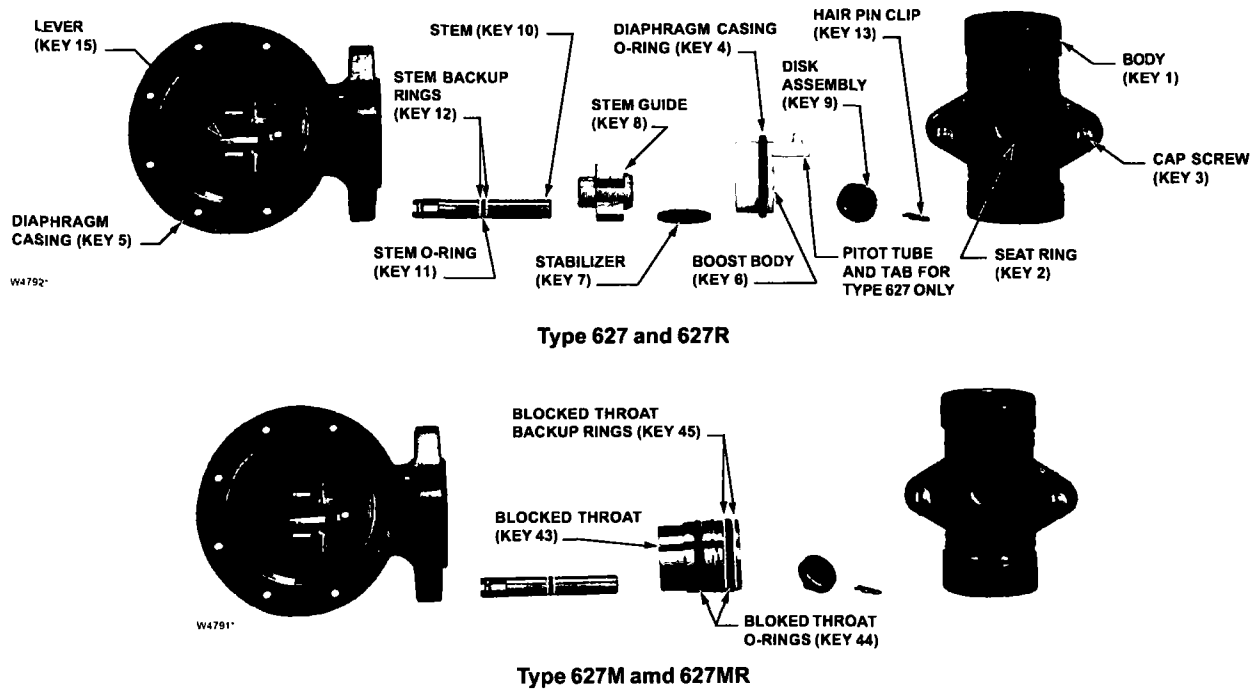

Figure 5. Stem Assemblies
1. To inspect and replace the disk assembly (key 9) or seat ring (key 2), remove the cap screws (key 3, figure 5), and separate the diaphragm casing (key 5) from the body (key 1).
2. Inspect and, if necessary, remove the seat ring (key 2). If removed, coat the threads of the replacement seat ring with lubricant (key 38) and torque to 25 foot-pounds (34 N•m).
3. Inspect the disk assembly and, if necessary, remove the hair pin clip (key 13) that holds the disk assembly (key 9) in place. If replacing the disk assembly is the only maintenance required, skip to step 16.
4. For Type 627, 627H, and 627R regulators (figure 5), use steps 5 through 8 to remove and replace the stem assembly.
5. Remove the boost body (key 6), stabilizer (key 7), and stem guide (key 8) from the diaphragm casing (key 5). Unhook and remove the stem (key 10) from the diaphragm casing (key 5).
9. For Type 627M, 627HM, and 627MR regulators (figure 5), use steps 10 through 14 to remove and replace the stem assembly.
10. To remove the blocked throat (key 43), insert a screw driver blade into the groove provided in the throat and pry it out of the diaphragm casing (key 5). Inspect and replace parts as necessary.
11. Inspect and, if necessary, replace the blocked throat O-rings (key 44, figure 5) and backup rings (key 45, figure 5).
12. Apply lubricant (key 42) to replacement blocked throat O-rings (key 44) and backup rings (key 45).
13. Apply lubricant (key 42) to the replacement stem O-ring (key 11) and stem backup rings (key 12) and install them on the stem (key 10).
14. For assembly, insert the stem (key 10) into the diaphragm casing (key 5) and hook it on the lever (key 15).
15. Insert parts into the diaphragm casing (key 5) that were removed in steps 5 and 6 or step 10 (see figure 5).
16. Install the the disk assembly (key 9), line up the hole in the disk assembly and stem (key 10) and insert the hair pin clip (key 13).
17. Position the diaphragm casing plus attached parts in relation to the body (key 1) so that they are correct for the application.
18. Secure the diaphragm casing to the body with the cap screws (key 3, figure 5). For an aluminum diaphragm casing (key 5), torque the cap screws (key 3) to 16 foot-pounds (22 N•m). For ductile iron or steel diaphragm casings, torque the cap screws (key 3) to 25 foot-pounds (34 N•m).
6. For Type 627, 627H, 627M, and 627HM regulators (figures 5 & 6), use steps 7 through 11 to disassemble and reassemble the diaphragm assembly.
7. Remove the diaphragm head cap screw (key 46), lower spring seat (key 31, Type 627 or 627M only), and diaphragm head (key 24). On the Type 627H or 627HM, remove the diaphragm cap screw O-rings (key 52). Separate the diaphragm (key 23) from the pusher post (key 19).
8. Install the diaphragm (key 23), in reverse order in step 7, on the pusher post (key 19), insert and finger tighten the diaphragm head cap screw (key 46).
9. Hook the pusher post on the lever (key 15), then turn the diaphragm (key 23) to match the holes in the diaphragm with the holes in the spring casing.
10. Unhook the pusher post from the lever and torque the diaphragm head cap screw (key 46) to 7 foot-pounds (9 N•m) for the Type 627 or 627M. On the Type 627H or 627HM torque the diaphragm head cap screw to 14 foot-pounds (18 N•m).
11. Hook the pusher post on the lever (key 15) and check the hole alignment. If necessary, loosen the cap screw (key 46) and reposition the diaphragm (key 23) on the pusher post (key 19). Retorque the screw (see step 10). Skip to step 20.